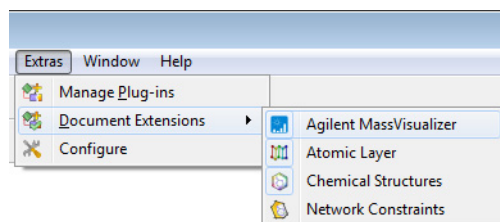

Figure 74 Enable Document Extensions from the menu bar
- a Click **Extras > Document Extensions > Agilent MassVisualizer** (Figure 74).